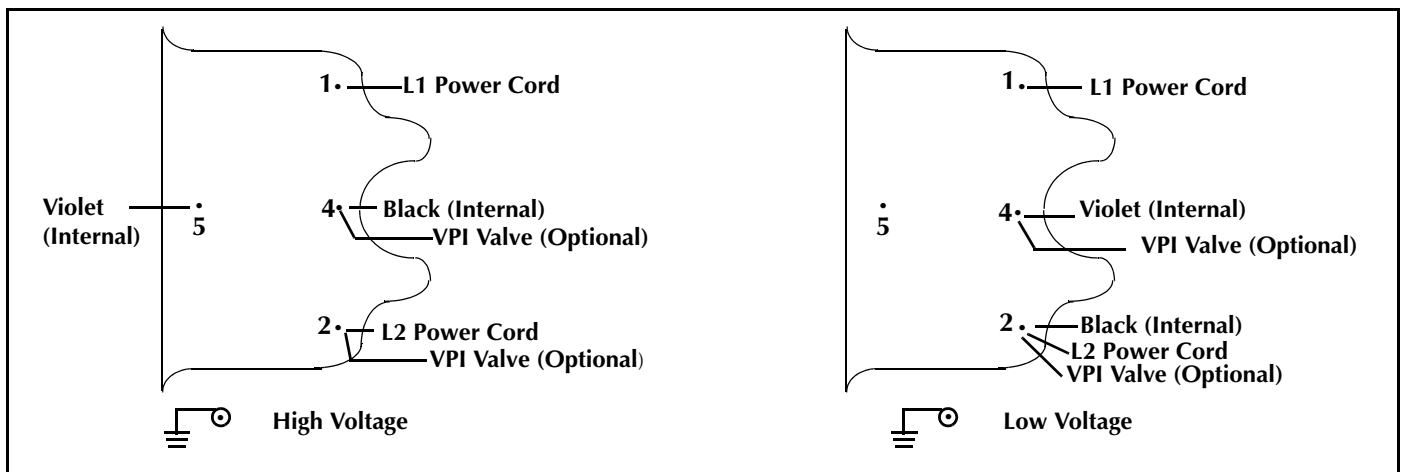

Figure 4 Single Phase Motor Electrical Connections
The pump can be configured for low voltage, 100 VAC to 115 VAC, or for high voltage, 200 VAC to 230 VAC. As supplied from the factory, the pump is configured for low voltage. Figure 4 shows the electrical connections for a single phase motor.
3. Refer to Figure 4 to connect the motor to match your supply voltage.
4. Wire L1 and L2 per Figure 4 using right angle flag connectors or ring connectors. Ensure that no exposed wiring is close to the electrical cover or to other terminals on the board.
6. Replace the motor electrical cover and secure it with three (3) screws removed in step 2.
Using the data in Table 3, verify that the VPI Valve chosen is compatible with the TriScroll supply voltage and frequency. Then, locate the proper wiring diagram to use (Figure 4 on page 7).
2. Connect the VPI Valve solenoid wire leads to the pump motor as shown in Figure 4.